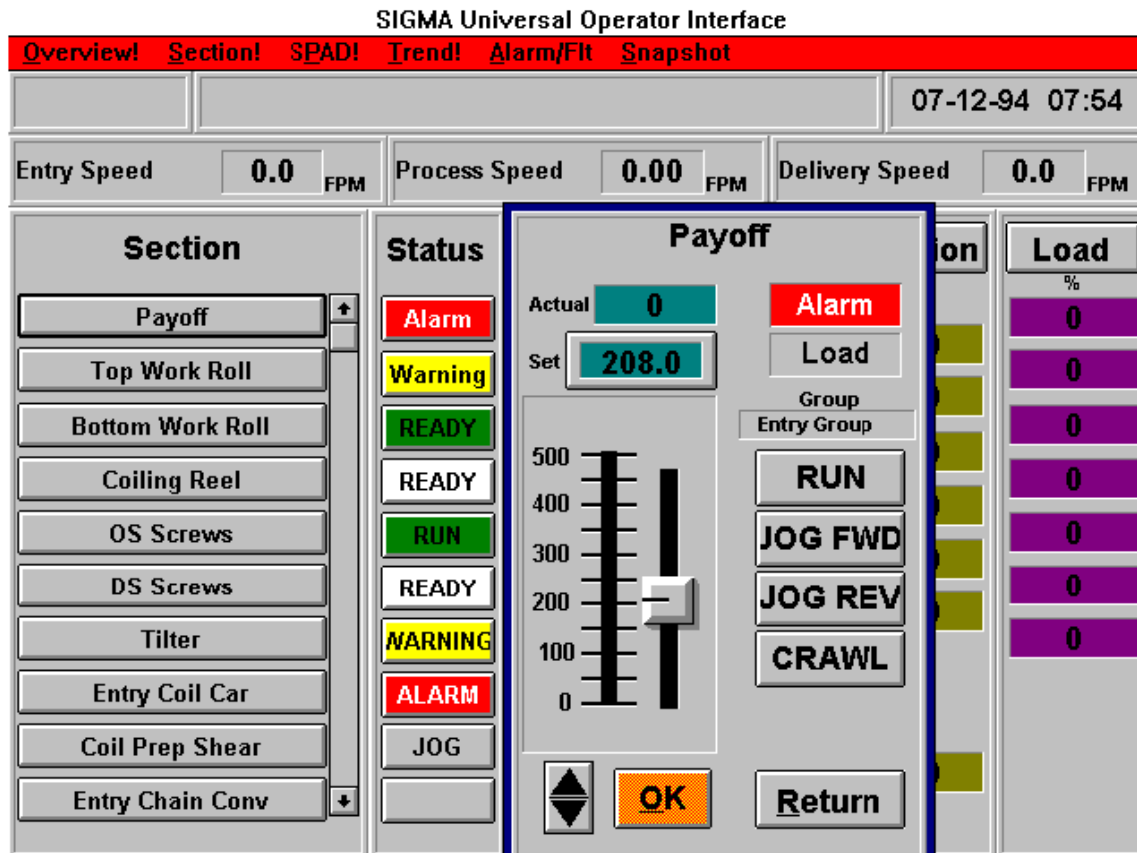

Figure 6-16 A Section Control Window with a Slider Bar Under Development
Clicking a push-button in the **Section** column of the Drive Overview screen (refer to Section 6.1) displays a "Section Control" window. An example is shown in Figure 6-16. This window allows a user to assign the section a setpoint value, and/or use a push-button to control a drive. The push-button names and functions are application specific. For example, a paper line may use the names Run, Crawl, Jog Fwd, Jog Rev, and Stop for the functions needed.
- slider bar (optional feature) - see Figure 6-16